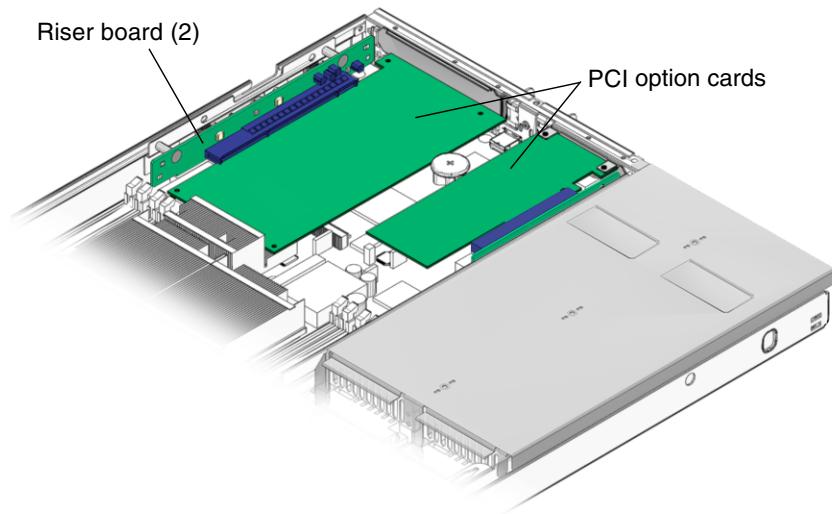

FIGURE 3-13 Riser Boards and PCI Option Cards – Sun Fire V215
4. Remove any PCI option cards that are installed (FIGURE 3-13).